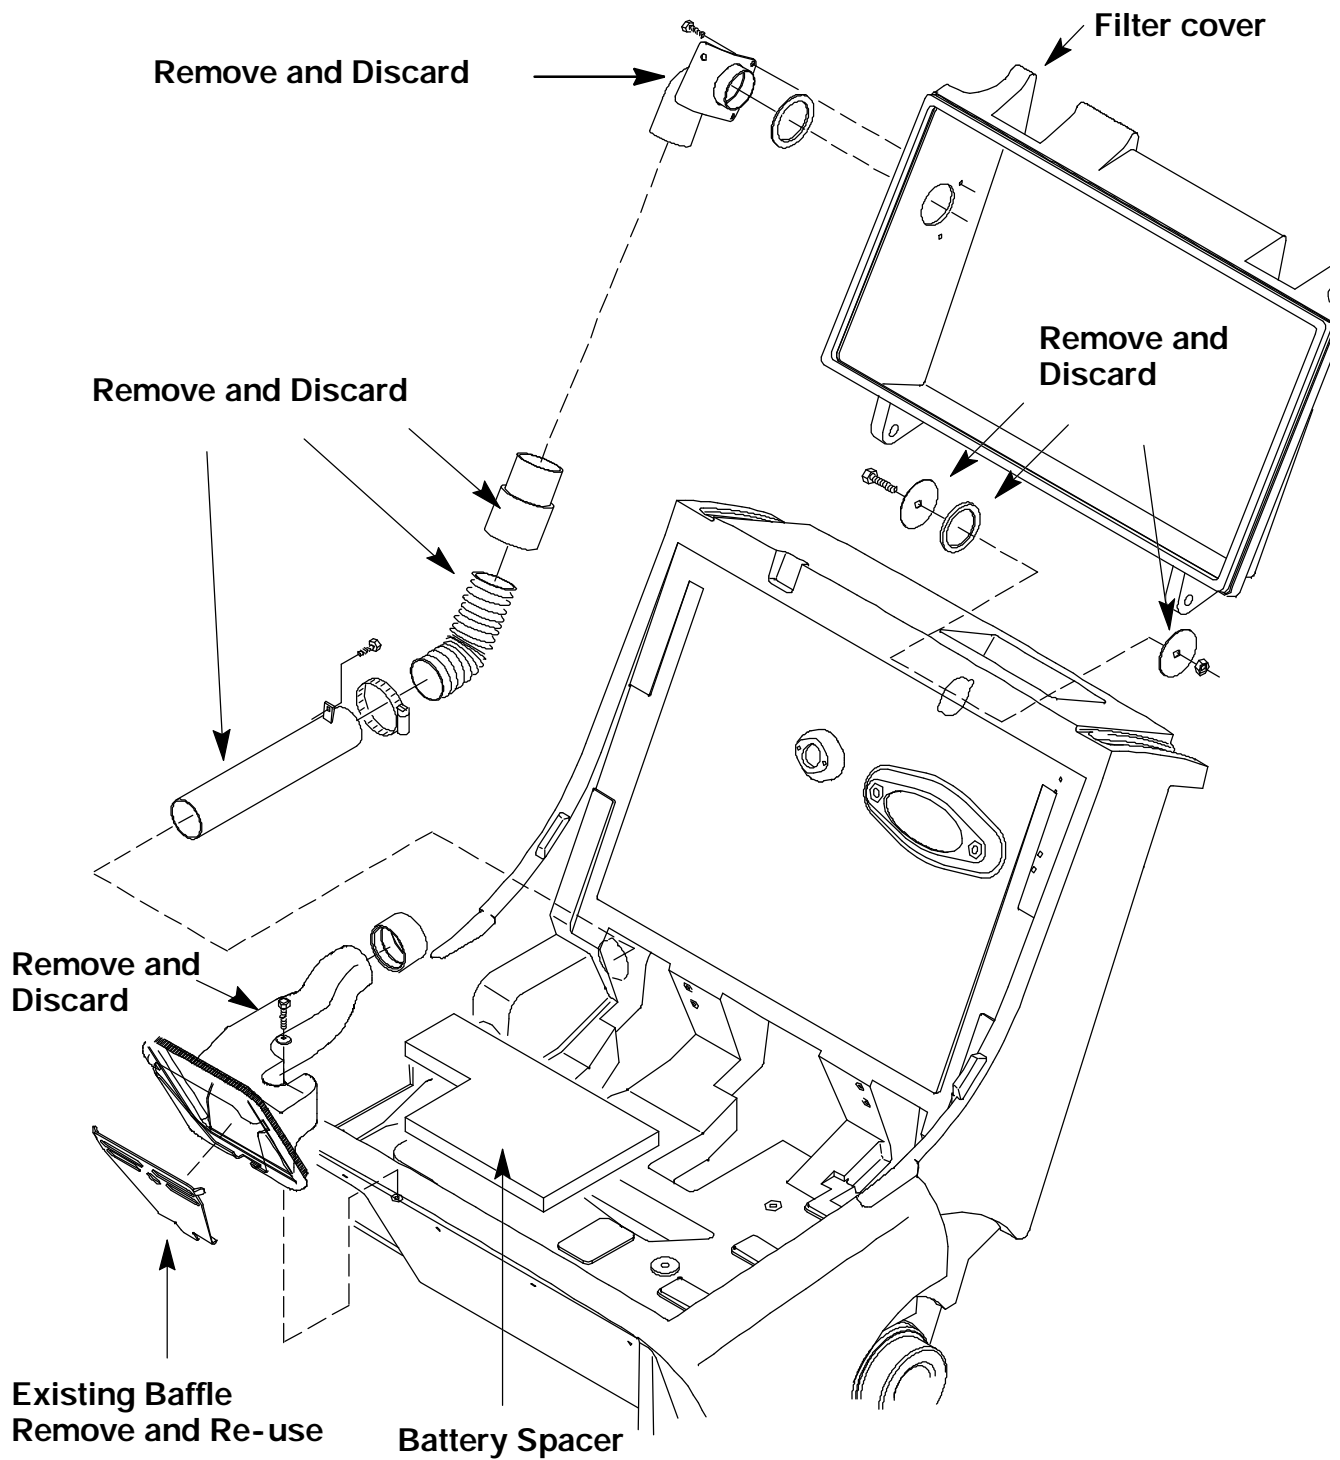

FIG. 1 High Air Flow Assembly Removal
(Refer to FIG. 1 thru 4)
(Refer to FIG.1)
(Refer to FIG. 1)
2. Remove and discard the the hose elbow coupling from the filter cover. (Refer to FIG. 1)
3. Remove and discard the washers and seal from the frame. (Refer to FIG. 1)
5. Remove and discard the battery spacer. (Refer to FIG. 1)
7. Remove the hex screw holding the existing vacuum chamber in the machine. Remove the vacuum chamber from the machine. Remove the steel baffle from the vacuum chamber. Discard the vacuum chamber. Install the steel baffle into the new vacuum chamber (5).
(Refer to FIG. 1 and 2)